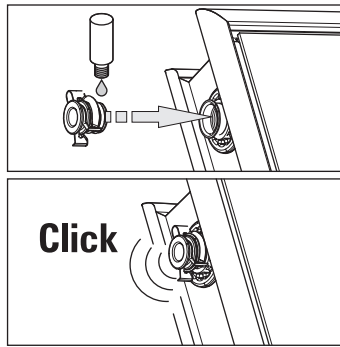

Fig. 3-42 Work step 4
4. Apply lubricant to the O-rings of the end plugs. Insert end plugs into the open solar panel connection pipes until the retaining clamps click in place (Fig 3-42).